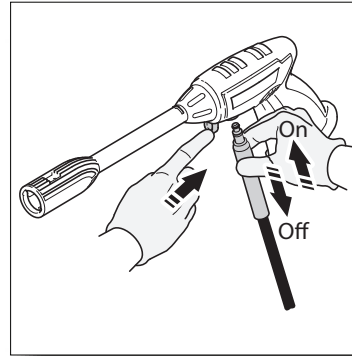

Fig. 4
- Connect the other end of the high pressure hose to the spray gun by inserting the silver metal tip of the high pressure hose into the fitting under the trigger guard. It will lock into the spray gun with a “click” (**Fig. 4**). Confirm the hose is locked into the spray gun by pulling slightly on the hose. The hose is now securely attached to the spray gun.